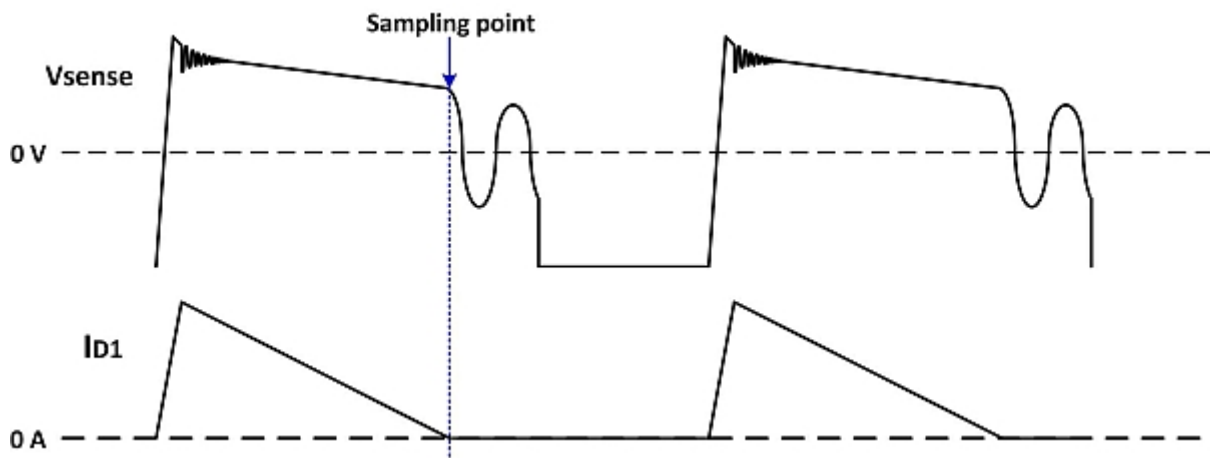

Figure 10. Voltage sensing scheme of PSR flyback converter
By operating in discontinuous conduction mode (DCM) or boundary conduction mode (BCM), the secondary current returns to zero in every switching cycle. **Figure 10** shows the auxiliary winding voltage profile in DCM. The PSR flyback converter senses the auxiliary winding voltage (V_{SENSE}) at the knee when the secondary current is approximately zero via a dedicated discriminator and sampler circuitry. At the sampling point, there is no resistance voltage drop across winding and trace since secondary current is zero. Also, the diode forward voltage drop at the sampling point becomes a constant (V_{OFFSET}), regardless of the actual load current. Thus, the sensed voltage becomes (5):